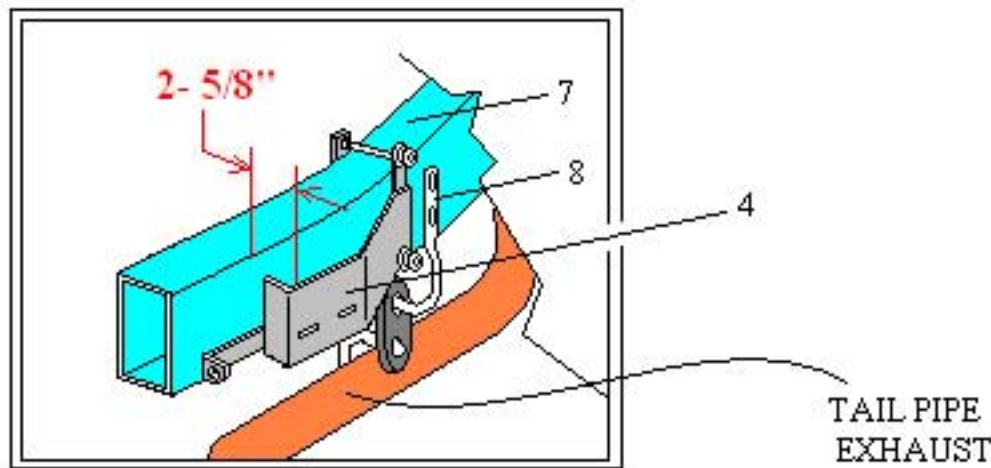

Fig. 4
- 6- Refer to page 4 Fig. 4 and Fig 5 loosen nut (2) on bumper (1) as shown in Fig. 5 then adjust the Frame Extension plate (4) either closer or further from the vehicle frame (7) so that an approximate 2-5/8" spacing is provided between the Frame (7) of the vehicle and the Frame Extension plate (4) along points "A" to "B" as shown in Fig 5. As illustrated on Fig. 4 bumper (1) and components have been deleted from image for clarity. Once the measurement has been confirmed completely tighten nut(2).